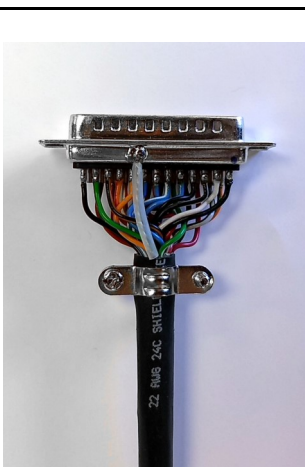

Figure 1.30
2. Attach the clamp to the control cable approximately 1" from the connector and secure with the provided hardware as shown in **figure 1.30**.